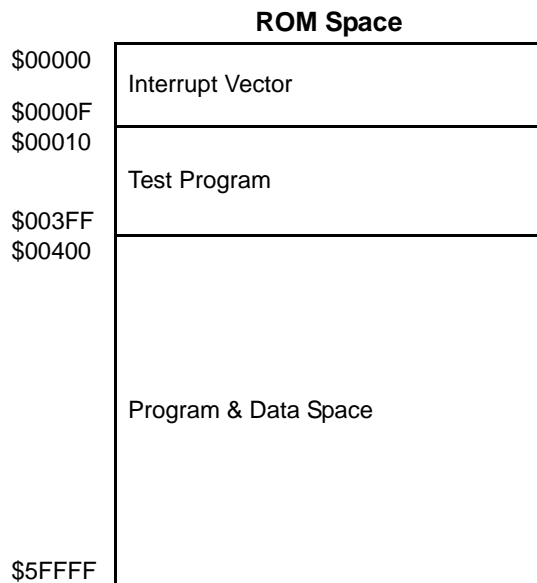

FIGURE 3.1: ROM Map of AM4FExxxx
The ROM memory could be divided into three portions. The first portion 0x0~0xF is addressed for interrupt in normal mode. The second portion 0x10~0x3FF is reserved for test program. The last portion 0x400~0X5FFFF located in the address range that could be accessed by program counter (PC) and others' pointer simultaneously. Address bits[17:16] is accessed by setting PCH value in SFR\$14 to switch banks. That is, each bank has memory space 64K words. This portion could be used to store program and data. Figure 3.1 shows the ROM map.